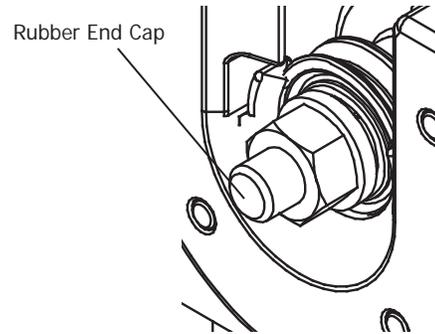

Fig. 7-1
7-1: Slide one (1) rubber end cap onto the end of each bolt sticking out of the pole ends, as shown in **Fig. 7-1**. If the poles are assembled correctly there should be approximately $\frac{1}{4}$ " - $\frac{3}{8}$ " of metal threads showing.